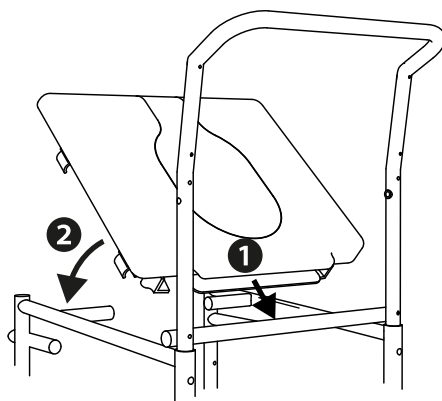

Fig.7
2. Now insert the seat cushion, aligning the recess with the rear cross member of the frame (1, Fig. 7).